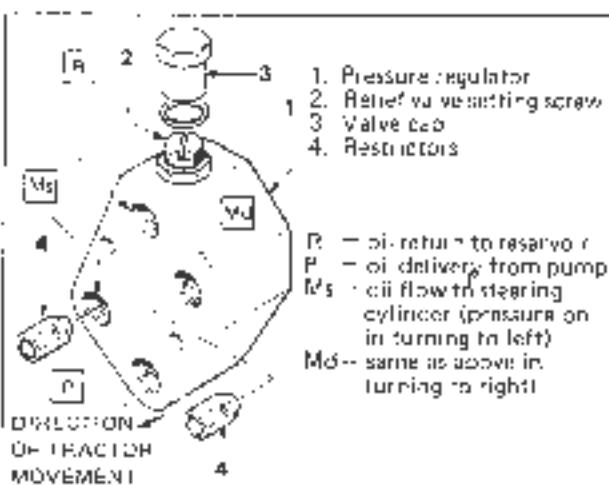
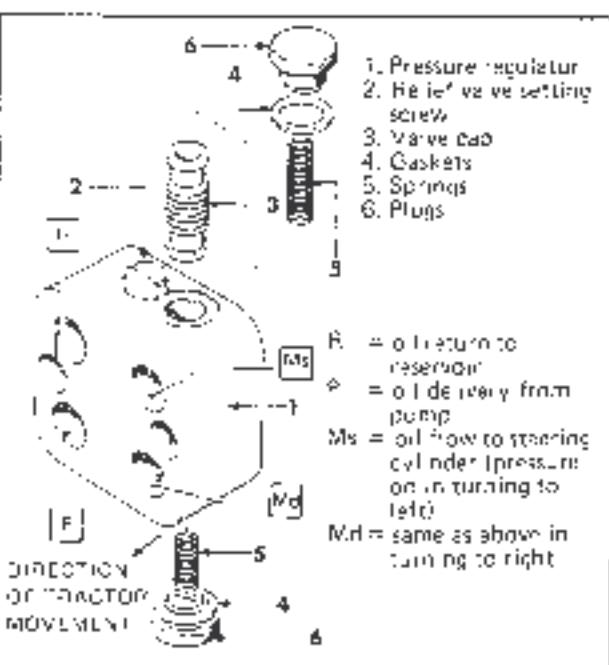

Figure 33. Setting of the hydraulic power steering valve (example A)
Figure 34. Setting of the hydraulic power steering valve (example B)
(see fig. 33 and fig. 34)
- Make sure pressure gauge reading is 100 to 110 kg/cm². If reading is different, adjust setting through valve (fig. 33 or fig. 34, item 11) of the hydraulic power steering unit by screwing on or off adjusting screw (2) after removing valve cap (3).
a. Incorrect steering movement.	1. Air in the steering jack. Bleed the system. 2. Jack packings are faulty. Replace all jack seals. 3. Hydraulic steering valve dirty. Where valve of fig. 33 is fitted, disassemble and clean restrictors. Where valve of fig. 34 is provided, disassemble and clean valve piston and verify that springs are not broken.